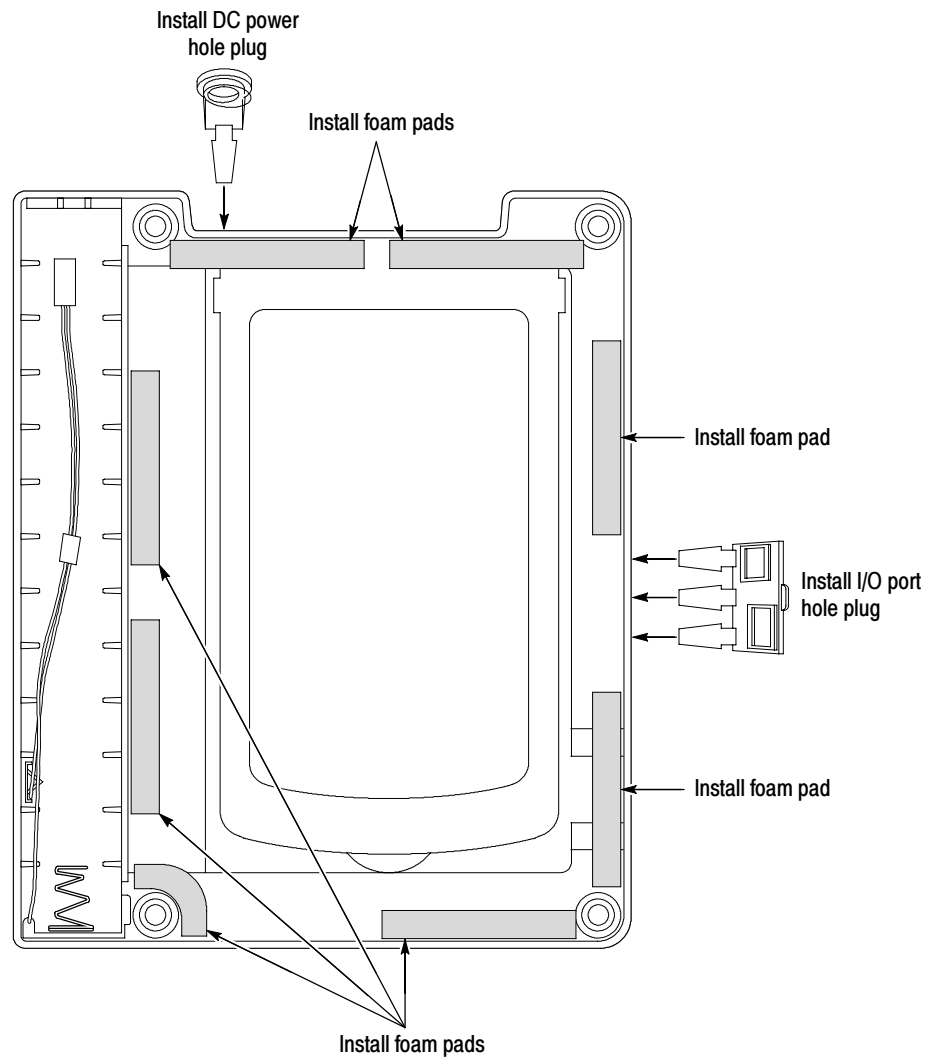

Figure 22: Foam pad and hole plug locations on the back cover
- b. Check that all foam pads inside the back cover are correctly installed. Refer to Figure 22 for the correct locations.